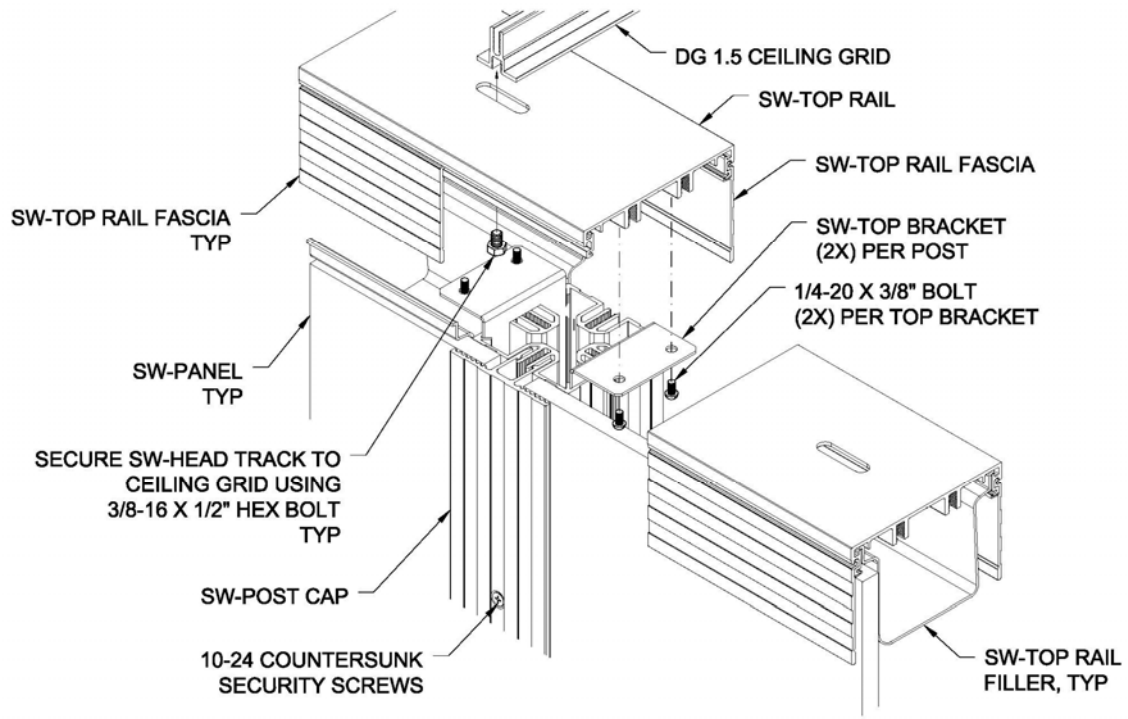

**FIG.4**
4. After the Top Rail and Floor Brackets are installed, the post installation may start. All posts at the top end will have two top brackets, except start and end posts located next to a wall use only one on the side opposite of wall. The brackets slide into the bracket guides. **Fig.4.**